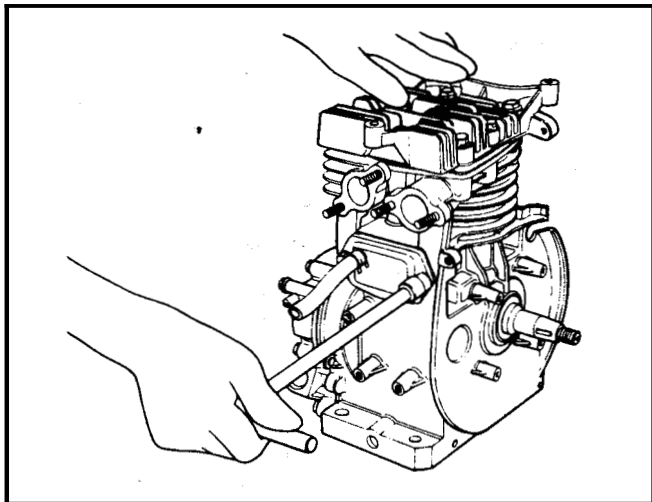

Figure 73
31. Remove the crankcase breather assembly. See Figure 73.